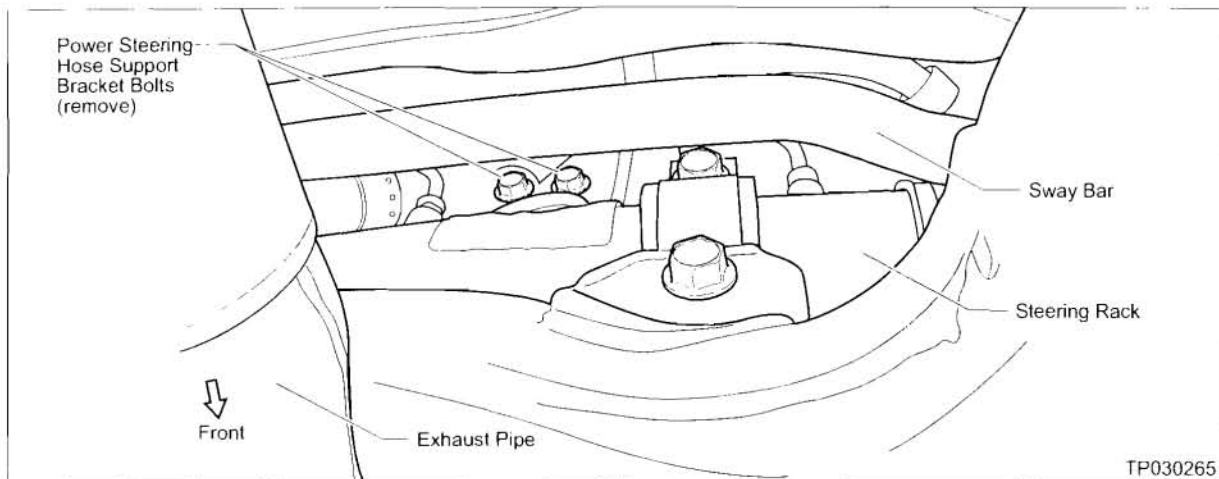

Figure F5
- Make sure to remove the Power Steering Hose Support Bracket Bolts before engine removal (see Figure F5).